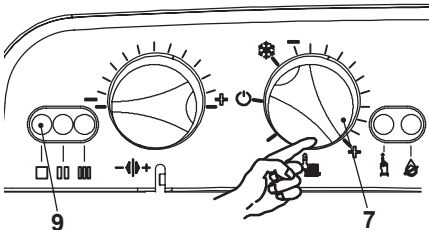

Fig. 7.9
- Turn the boiler ON positioning the control selectors 7 in the positions as shown in as in Fig. 7.9 and ensure that the timer selector switch and room thermostat, if fitted, are set to "heat demand".
- Watch the gauge and check to see if the ignition pressure registered corresponds to the values as given in the Technical Data. Turn off the boiler and reignite it by turning the function selector 7 to the OFF position and then back to that indicated in Fig. 7.9.